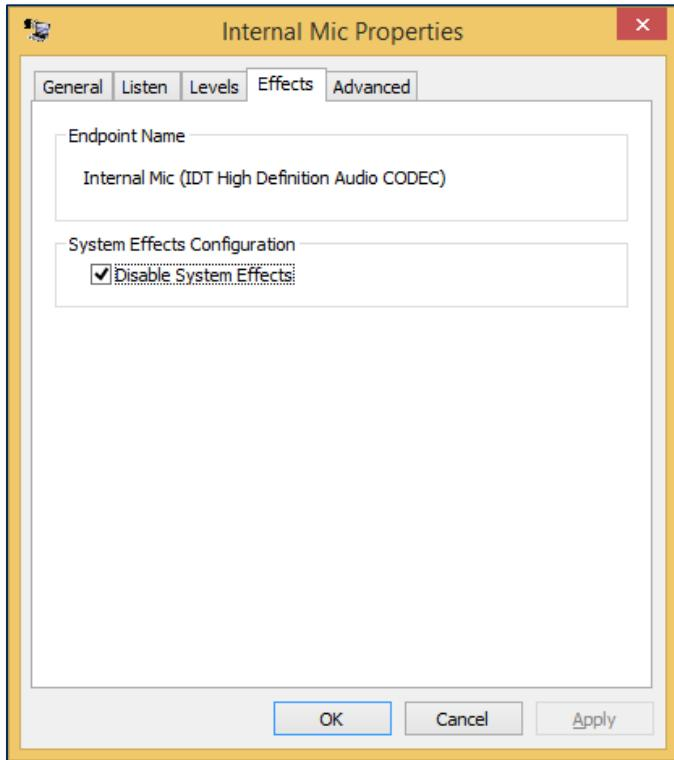

Figure 3-4 Effects Turned Off
- 17) If the **Enhancements** tab has a **Disable System Effects** checkbox, turn it ON. Turn all other effects off. See Figure 3-4 for an example.